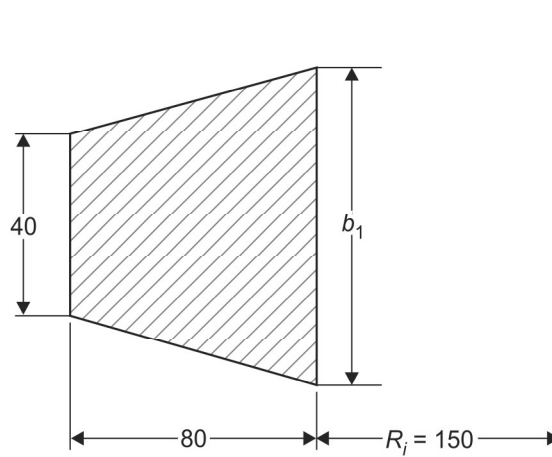

Fig. 1.41: Problem 36
Based on given data, the crane hook is as shown in Fig. 1.41.
- From Fig. 1.41, we have